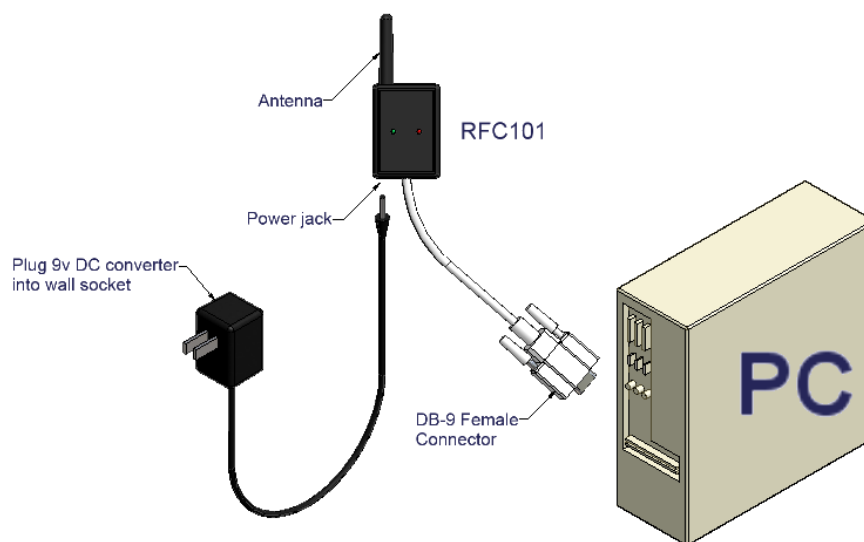

Figure 2. Connecting the RFC101A wireless receiver
| Figure 2. Connecting the RFC101A wireless receiver | 5 |
To set up the system for receiving wireless data, connect the RFC101A to the PC and plug in the power supply to a 110VAC outlet (as shown in Figure 2). In most cases, the IFC110 will need to be removed from the PC to connect the RFC101A. If there are multiple COM ports available on the PC, the RFC101A may be connected to a different COM port than the IFC110, thus leaving IFC110 connected. To switch between using the IFC110 and RFC101A, simply change to the appropriate COM port under the "Communications" menu.
1. Connect the RFC101A wireless receiver to a COM port (as shown in Figure 2)